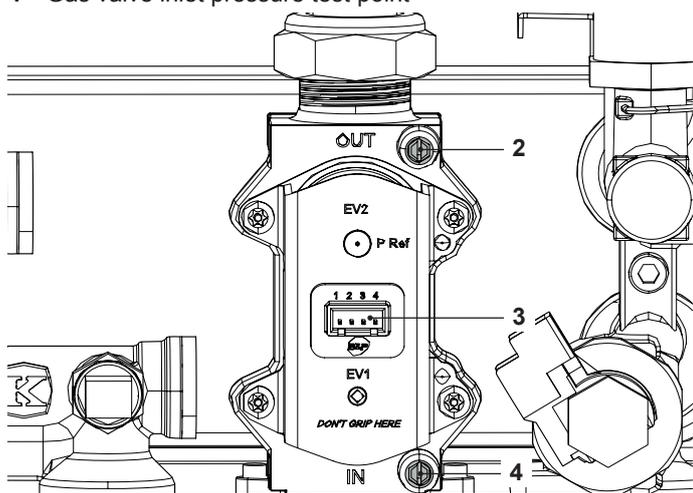

Figure 11.2
(Figure 11.2)
- 3 Loosen the internal screw on the Inlet Pressure Test Point "4" (Figure 11.2) of the Gas valve and connect a pressure gauge using a suitable hose.
- 7 Disconnect the pressure gauge and close the Inlet Pressure Test Point "4" (Figure 11.2).